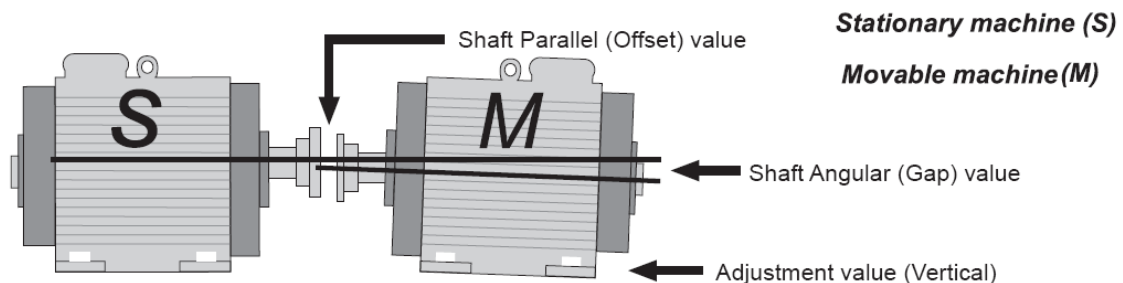

Fig 3.
The measurement system calculates the values of the angular and parallel misalignment of axes in the plane of the coupling (in two mutually perpendicular planes), and the adjustment values for the machine feet on the movable (M) machine, that is necessary for elimination of this misalignment of axes. Fig. 3 shows misalignment of axes and the values for its correction just for vertical plane.